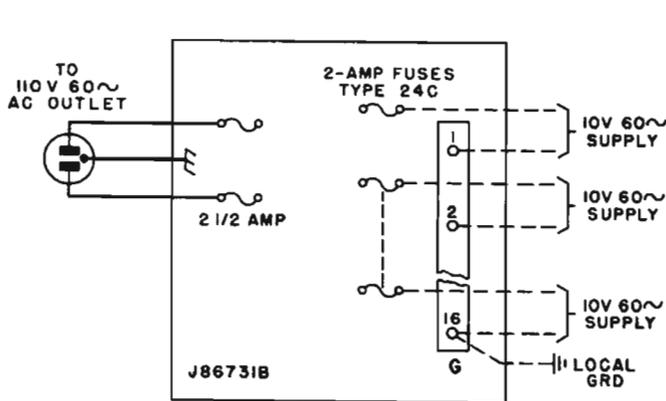

Fig. 4 - J86731B 101G Power Plant
**5.05** Fig. 4 gives the connections for the J86731B, List 1 power plant.